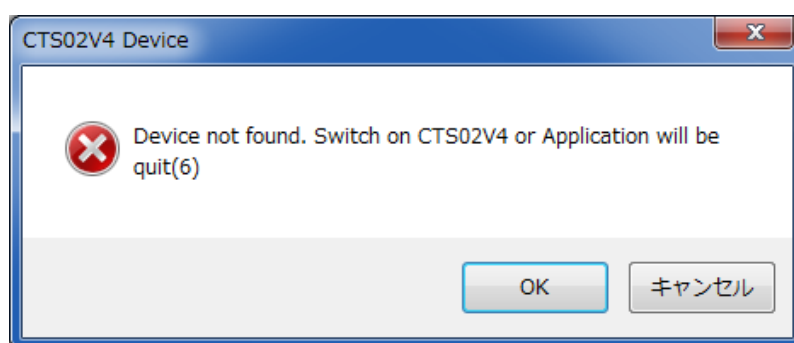

Fig.5.1-2 Warning Dialog
- Warning dialogue will be displayed as shown below (See Fig.5.1-2).
- When click [キャンセル (cancel)] button, the initial screen will change a little and [Connect to CTS02V4] button ⑧ will appeared in [SET UPCTS-02V4] list shown on the extreme right.